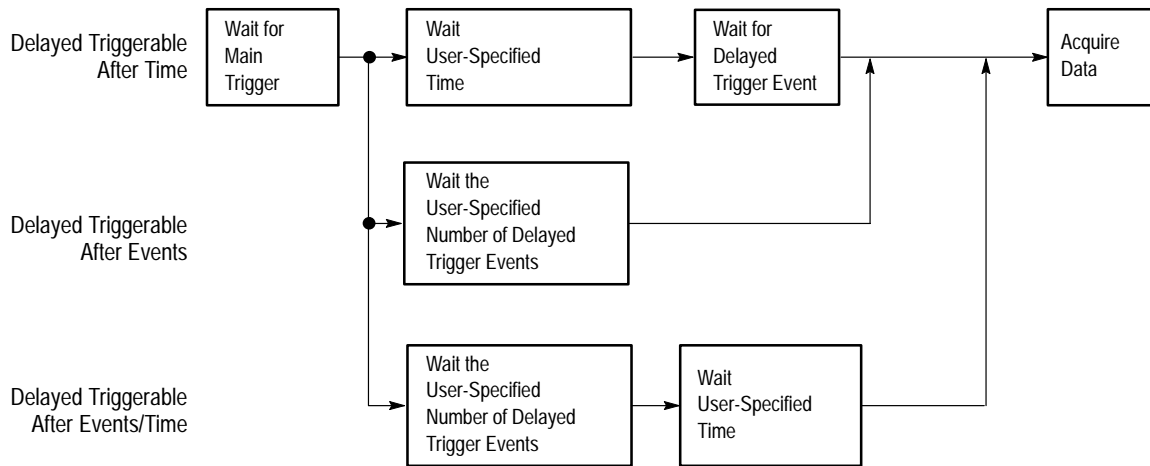

Figure 3-57: Delayed Triggerable
*Delayed triggerable* looks for a main trigger and then, depending on the type of delayed trigger selected, makes one of the three types of triggered delayed acquisitions listed below. (See Figure 3-57.)